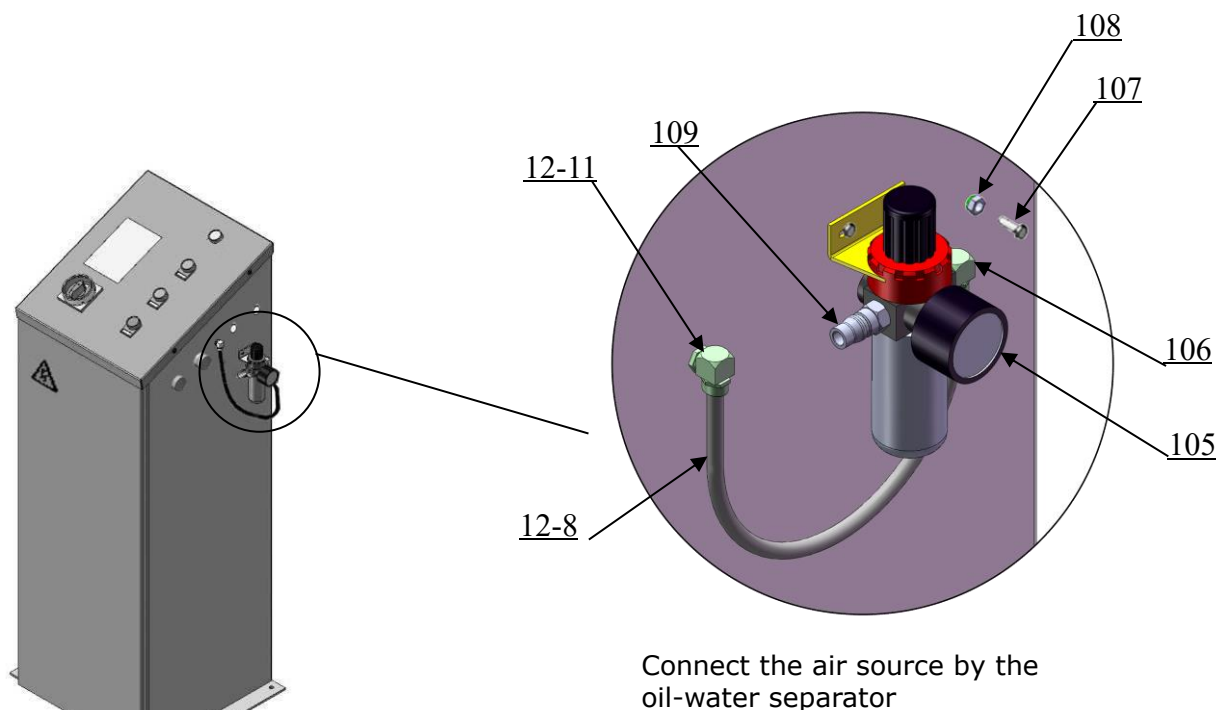

Fig. 16
4. Install the oil-water separator **(See Fig. 16)**.